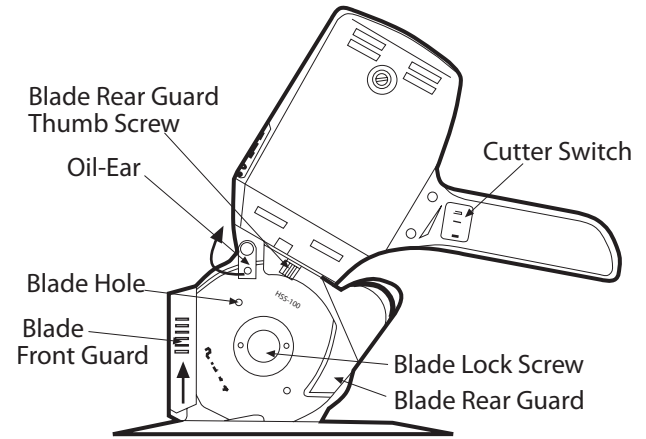
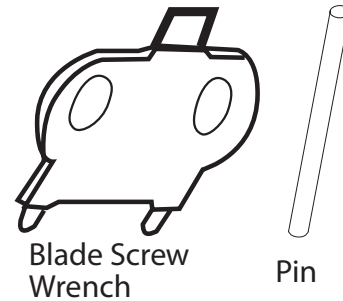

Figure 1. 4" Rotary Cutter Front View
Figure 3. Special Tools
## Operation (See Figure 1)
1. Put a drop of machine oil in the hole on the oil-ear (see Figure 1) once a day if you use the cutter every day. Otherwise put a drop of oil in the hole on the oil-ear before every use of the cutter.
2. Remove the blade front guard by pulling it upward, and turn the oil-ear outward as shown in Figure 1.
3. Remove the blade rear guard by loosening its thumb screw (see Figure 1).
4. Use the blade screw wrench shown in Figure 3 to loosen the blade lock screw counter clockwise. If the blade turns with the lock screw, you can stop it by inserting one end of the pin (see Figure 3) through the hole in the blade at the location as shown in Figure 1. There is a hole at the blade seating at that location.
1 special wrench (see Figure 3) for blade lock screw; 1 pin, 1 syringe of grease; 1 extra octagon blade, 1 grinding stone, 1 pair of motor brushes, 1 brush screw.